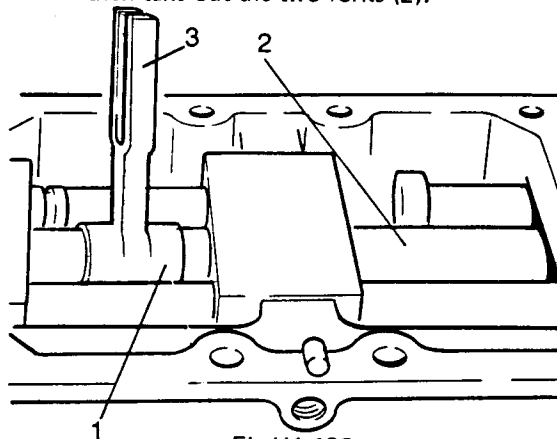

Fig H1.120
- (7) Refer to Fig H1.120. Remove the spring pin (1) from the 3rd and 4th speed selector fork, which holds it to its selector shaft and extract the locking roller, through the hole which the cover has for this effect.
- (8) Remove the 3rd and 4th selector shaft (2) sliding it backwards and extract the fork (3).